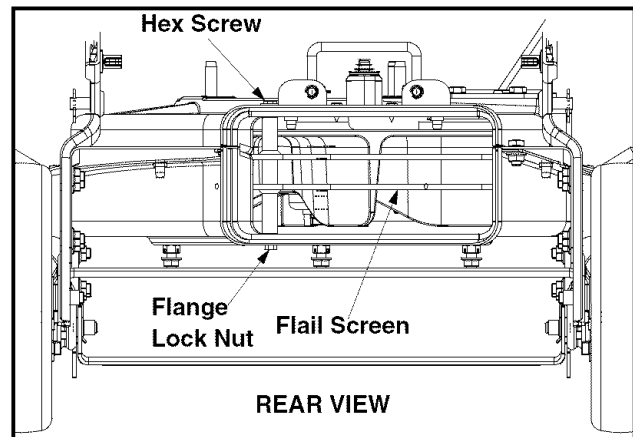

Figure 17
- Remove the vacuum bag or blower chute from the unit as instructed in the OPERATION section to obtain access to flail screen. See Figure 17.
- Remove hex screw on top of rear housing near mounting bracket and the flange lock nut that secures flail screen. See Figure 17.
- Remove flange lock nut that secures flail screen to the lower housing. The flail screen does not have to be removed. Refer to Figure 17.